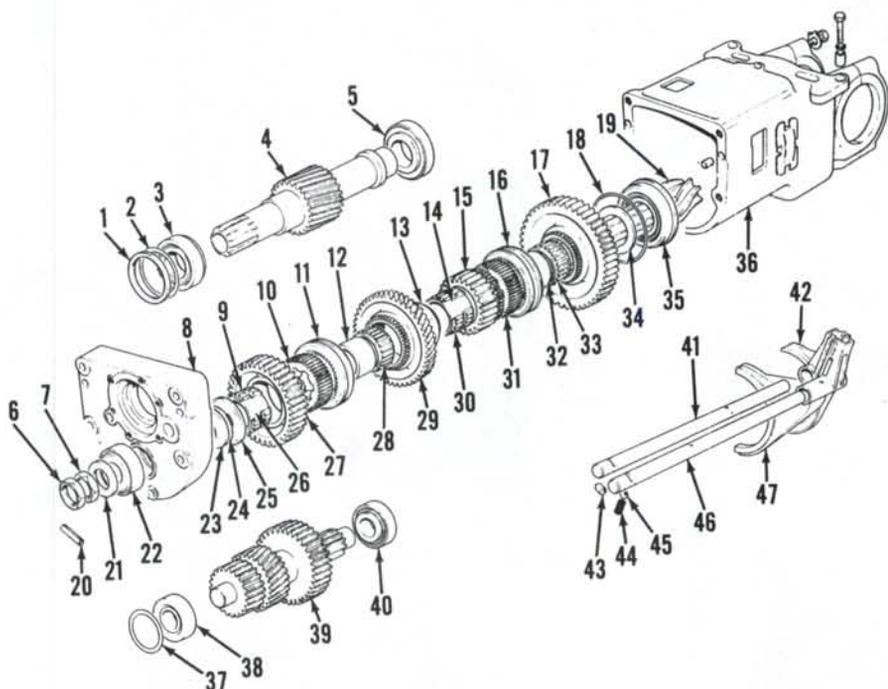

Fig. 207—Exploded view of power shift range transmission showing component parts and their relative positions.
Remove nuts from transmission studs, then separate power shift unit from range gearbox. Remove spacer and sprag clutch from end plate bearing retainer. Drive roll pin (20—Fig. 207) from pinion shaft (19). Remove locking nuts (6 and 7) noting that shaft has left-hand threads. Remove spacer (21) and bearing (22). Remove end cover mounting bolts, then lift end cover (8) from range housing (36). Remove thrust washer (23), shims (24), spacer (25), second gear (27), needle roller bearings (9) and race (26) from pinion shaft. Remove second/reverse shift rod and collar (11) as an assembly. Remove gear (10), bearing (28) and race (12), reverse gear (29), thrust washer (13), third gear (15), bearings (30) and race (14), first/third shift rail assembly with collar (16) and sliding collar inner gear (31). Withdraw input shaft assembly (4) and idler shaft assembly (39). Remove first gear (17), bearing (33) and race (32) and thrust washer (34).
**269. REASSEMBLY.** Inspect all gears, thrust washers and bearings for excessive wear or damage and renew as necessary. If renewal of input shaft (4—Fig. 207) or idler gear (39) or their bearings is required, shaft end play must be set as outlined in following paragraph before reassembling transmission. If renewal of pinion shaft (19) or rear bearing is necessary, pinion shaft protrusion must be set as outlined in paragraph 273 before proceeding with reassembly.
**270. IDLER SHAFT AND INPUT SHAFT END PLAY.** Heat bearings to 120°C (250°F) maximum before installing on the shafts. Install spacer (1—Fig. 207) and front bearing cups minus shims (2 and 37) into front end housing. Position idler shaft and input shaft assemblies into housing and install front housing. Remove the four housing mounting studs, if not already removed, and install four bolts in place of the studs. Tighten bolts to 95 N·m (70 ft.-lbs.) torque and rotate shafts to be sure bearings are seated.
**271. PINION SHAFT ASSEMBLY.** With pinion shaft protrusion set and pinion shaft installed in housing, reassemble range transmission as follows: Install thrust washer (34—Fig. 207) on pinion shaft with oil grooves facing away from rear bearing. Install first gear (17), bearing (33) and race (32). Position idler shaft and input shaft assemblies in housing. Position shift interlock plug (43) in housing bore so it is between shift rod holes in range housing. Install gear (31) on pinion
Install third gear (15—Fig. 207), bearings (30) and race (14). Install thrust washer (13) with oil grooves facing away from third gear. Install reverse gear (29), bearing (28) and race (12). Install sliding collar gear (10), sliding collar (11) and second/reverse shift rail assembly. Use special tool to depress detent ball and spring as shift rail is pushed into housing bore. Install second gear (27), bearing (9) and race (26). Install spacer (25) with larger outside diameter against second gear.